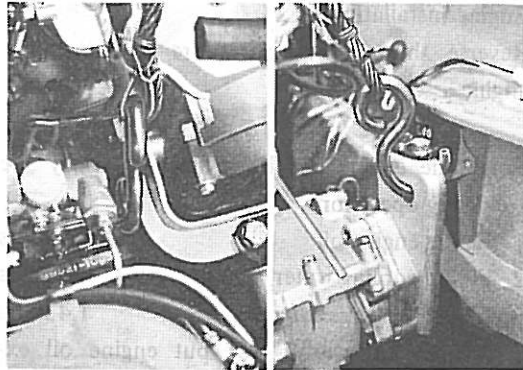

Fig. 3-24 Attaching Location of Engine Hanger Hooks
- (1) Attach one hook of the engine hanger to the alternator adjusting bar. Also, attach the other hook to the engine mounting LH bracket. See Fig. 3-24 for the attaching points.